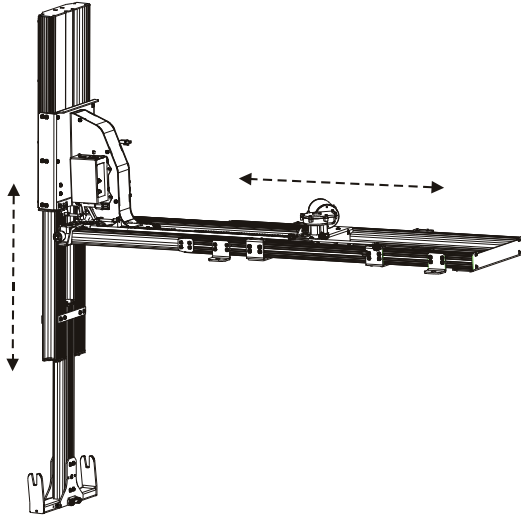

Figure 7-16
9. Run the lift "UP" and "IN" through a few cycles to help spread the grease throughout the rails. **See Figure 7-16.**